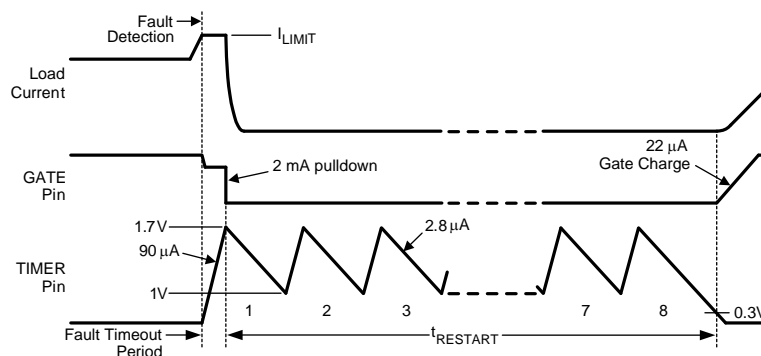

Figure 34. Restart Sequence
The LM25066I/A provides an automatic restart sequence which consists of the TIMER pin cycling between 1.7V and 1V seven times after the Fault Timeout Period, as shown in Figure 34. The period of each cycle is determined by the 90  $\mu$ A charging current, and the 2.8  $\mu$ A discharge current, and the value of the capacitor  $C_T$ . When the TIMER pin reaches 0.3V during the eighth high-to-low ramp, the 22  $\mu$ A current source at the GATE pin turns on  $Q_1$ . If the fault condition is still present, the Fault Timeout Period and the restart sequence repeat. The  $\overline{\text{RETRY}}$  pin allows selecting no retries or infinite retries. Finer control of the retry behavior can be achieved through the DEVICE\_SETUP (D9h) register. Retry counts of 0, 1, 2, 4, 8, 16 or infinite may be selected by setting the appropriate bits in the DEVICE\_SETUP (D9h) register.
**C) Restart Timing** - For the LM25066I/A, after the Fault Timeout Period described above,  $C_T$  is discharged by the 2.8  $\mu A$  current sink to 1V. The TIMER pin then cycles through seven additional charge/discharge cycles between 1V and 1.7V as shown in Figure 34. The restart time ends when the TIMER pin voltage reaches 0.3V during the final high-to-low ramp. The restart time, after the Fault Timeout Period, is equal to: